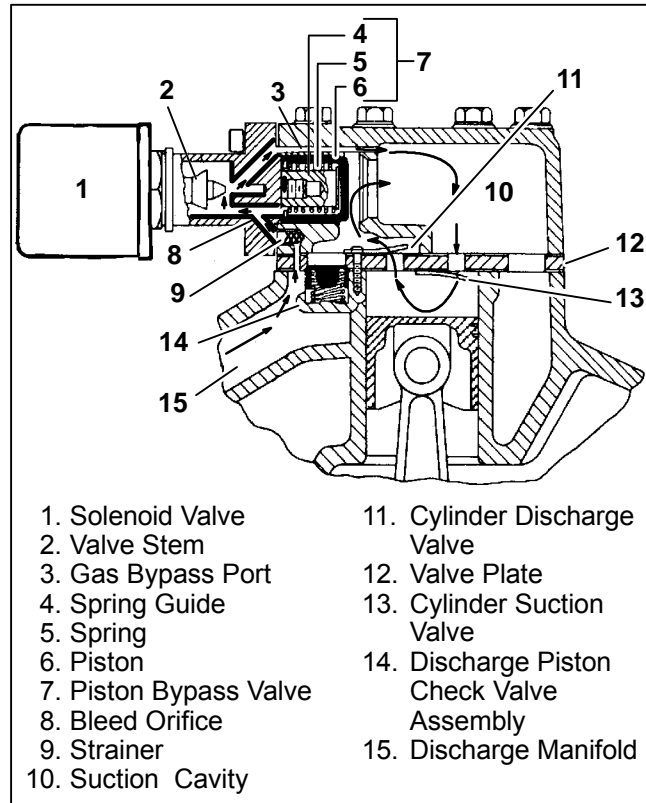
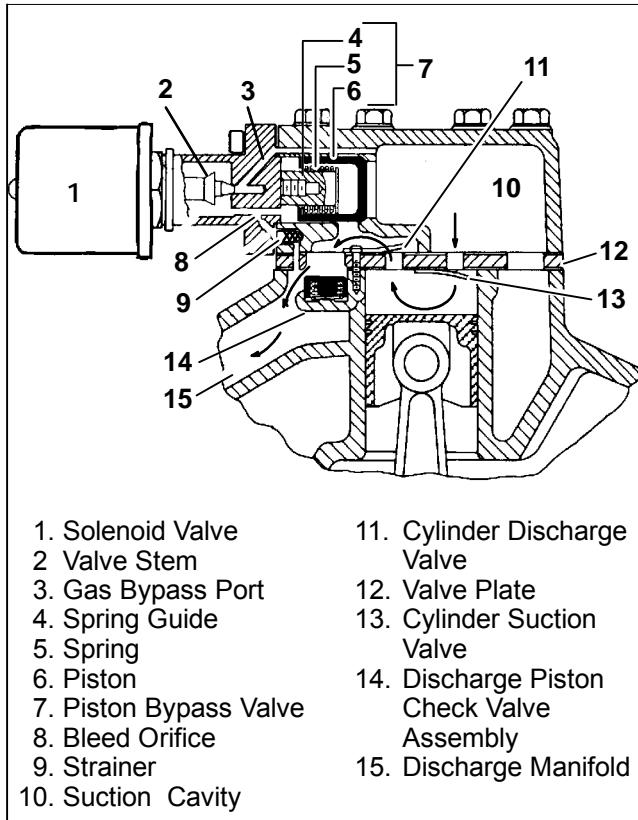

Figure 1-6. Electric-Operated Unloader- Unloaded Operation
Figure 1-7. Electric-Operated Unloader - Loaded Operation
The capacity controlled cylinder is easily identified by an electric solenoid which extends from the side of the cylinder head. When the solenoid energizes, the cylinder unloads allowing discharge gas to circulate as shown in Figure 1-6. The unloaded cylinder operates with little or no pressure differential, consuming very little power. A de-energized solenoid reloads the cylinder as shown in Figure 1-7.
Pressure from the discharge manifold (Figure 1-6, item 15) passes through the strainer (9) and bleed orifice (8) to the back of the piston bypass valve (7). Unless bled away, this pressure would tend to close the piston (6) against the piston spring (5) pressure.
Discharge pressure bleeds from the discharge manifold (Figure 1-7, item 15) through the strainer (9) and bleed orifice (8) to the solenoid valve stem (2) chamber and the back of the piston bypass valve (7).